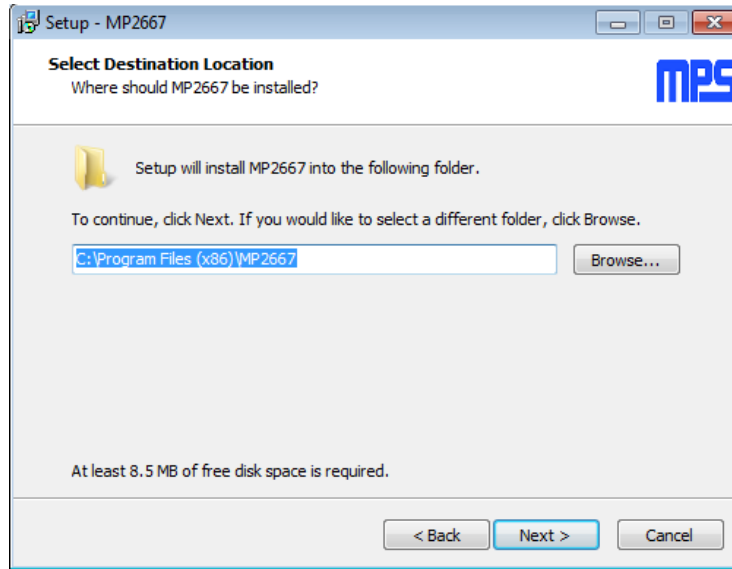

Figure 4: I²C GUI Set-Up Guide
2. Double-click the .exe file to open the set-up guide (see Figure 4). If a protection window comes up, click “More info,” then click “Run anyway.”